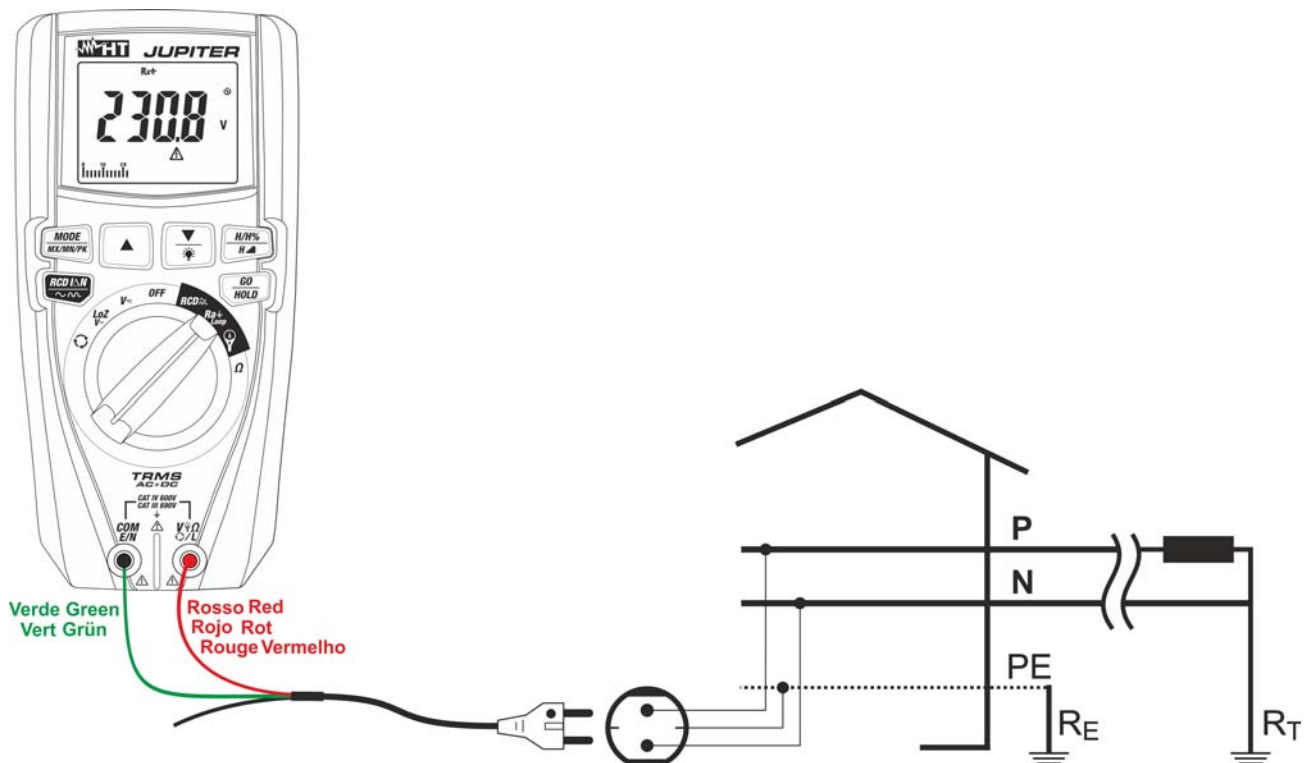

Fig. 23: Use of the instrument for measuring Loop L-PE impedance with cable provided with Schuko plug
5. **For Loop L-PE measurements**, in case the cable with Shuko plug is used, insert the red conductor into input terminal **VΩOL** and the green conductor into input terminal **COM/E/N** and connect the instrument to the system to be tested (see Fig. 23). The value of voltage Phase-Earth is shown on the display